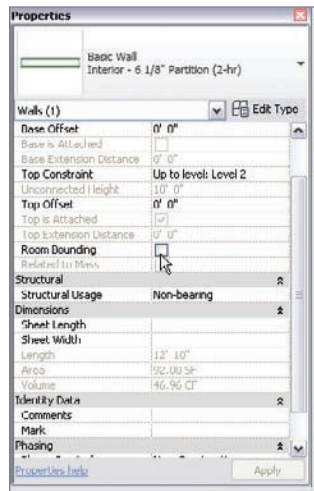

FIGURE 15.14 Unchecking Room Bounding
4. Uncheck Room Bounding, as shown in Figure 15.14.